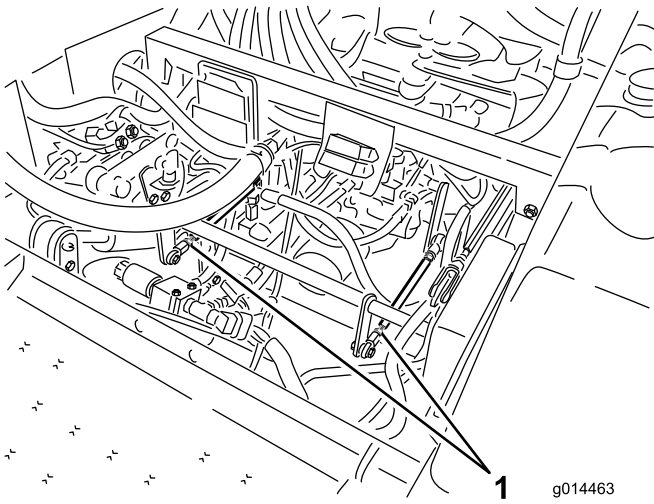

Figure 49
- If the left rear tire is rotating, loosen the jam nuts on the left side transmission control rod (Figure 49).